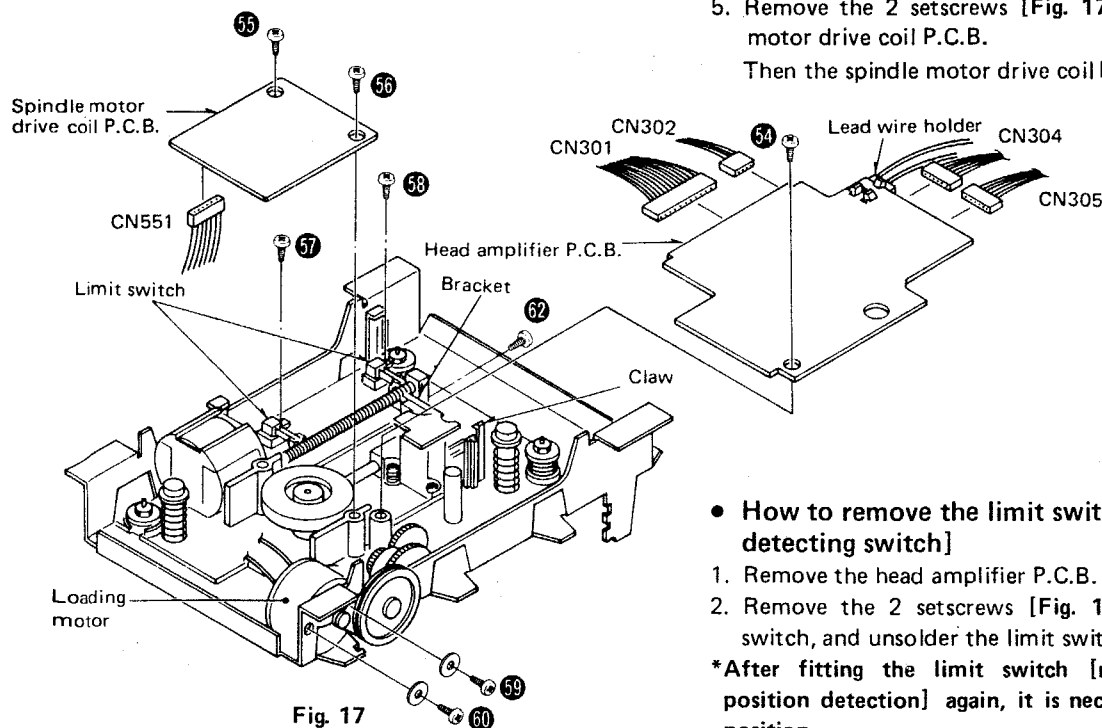

Fig. 17
2. Turn over the traverse unit and remove the head amplifier setscrew [Fig. 17: ⑤④].
5. Remove the 2 setscrews [Fig. 17: ⑤⑤, ⑤⑥] of spindle motor drive coil P.C.B.
2. Remove the 2 setscrews [Fig. 17: ⑤⑦, ⑤⑧] of limit switch, and unsolder the limit switch.
3. Remove the 2 setscrews [Fig. 17: 59 , 60] of loading motor, and unsolder the motor leads.
4. Remove the bracket setscrew [Fig. 17: 62] of pickup to remove the bracket.